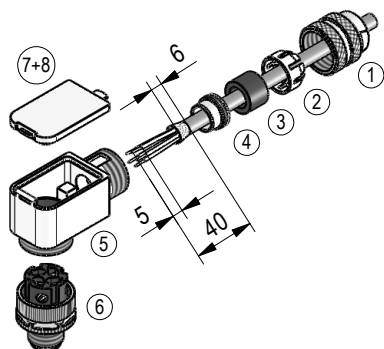

Fig. 9: Right angle mating connector M12
- Accessory SIKO art. no. "87600" M12 D coded (plug pin 4 pole Ethernet Port 1 (IN) + Port 2 (OUT)) (Fig. 9, Fig. 10).
Mounting (Fig. 9)